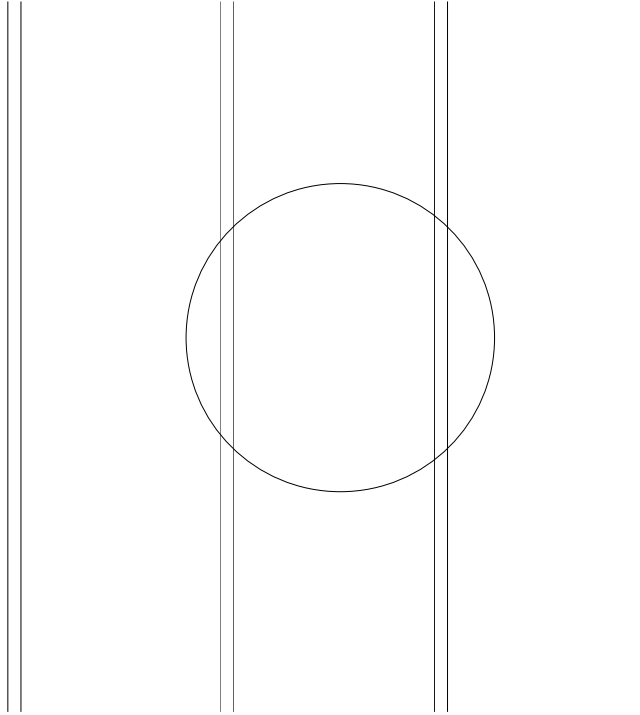

Figure 1
- iv) Mark out on the ceiling using a cord & a pencil the diameter of the light drum use a radius of 3mm larger than the ring (see item 1 in expanded view of skylight). Cut out ceiling lining to this mark with a keyhole saw and remove. **Do not cut thru ceiling joists at this stage !** See figure 1